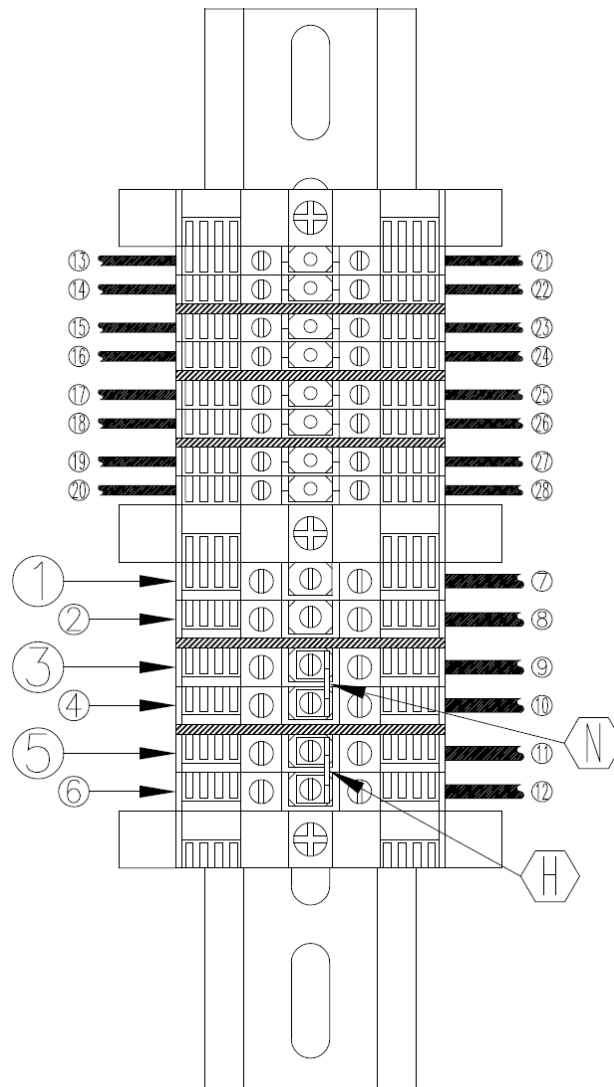

Figure 7 – Diagram - Terminal Strip Wiring Detail
1.10.4.2. Terminal Strip and Control Panel. See Figure 7 for information on connection to the terminal strip in the upper enclosure. Use Section 4 – Notifier manual 52985 to guide the installation of connections to the control panel. Terminals for 110VAC power accept qty. (1) 10 ga. max. conductor. NOTE: All conductors used for field wiring must comply with NFPA 70 – National Electrical Code, and control panel manufacturer's instructions (see Section 4). See Section 4, page 25 for information on power-limited conductor runs.
Legend for Figure 7
1.10.4.3.1. Power. 110VAC, 3-wire, single-phase power is attached to the terminal strip in the upper enclosure. See Figure 7. Terminals for 110VAC power accept qty. (1) 10 ga. max. conductor. Current draw: With 1/6HP compressor = 11.3 amps; with 1/3HP compressor = 11.3 amps, with 1/2HP compressor = 12.7 amps.
1.10.4.4. Compressor. See Figure 7. 110VAC, 3-wire, single-phase power is attached to the terminal strip in the upper enclosure. The compressor power is factory-wired to the terminal strip in the upper enclosure. In the default configuration, the same 110VAC source used for the control panel serves for the compressor. If the local authority having jurisdiction requires separate power sources for the control panel and the compressor, jumpers can be removed from the terminal strip. The compressor pressure outlet is factory-attached to the system piping within the lower enclosure.